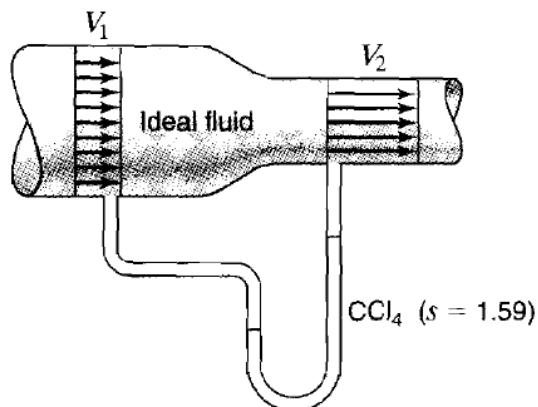

Figure 6 / Rajah 6
3. [a] Assume ideal fluid. The pressure at section 1 in Figure 6 is 68.95 kPa, $V_1 = 4.572 \text{ m/s}$, $V_2 = 15.24 \text{ m/s}$, and $\gamma = 961.1 \text{ kg/m}^3$. (i) Determine the reading on the manometer. (ii) If the downstream piezometer were replaced with a pitot tube, what would be the manometer reading?